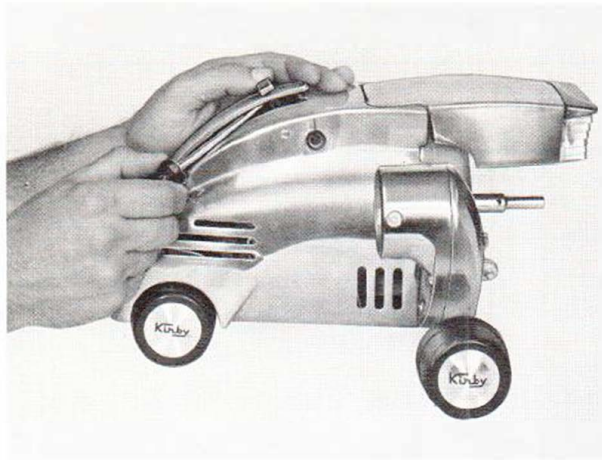
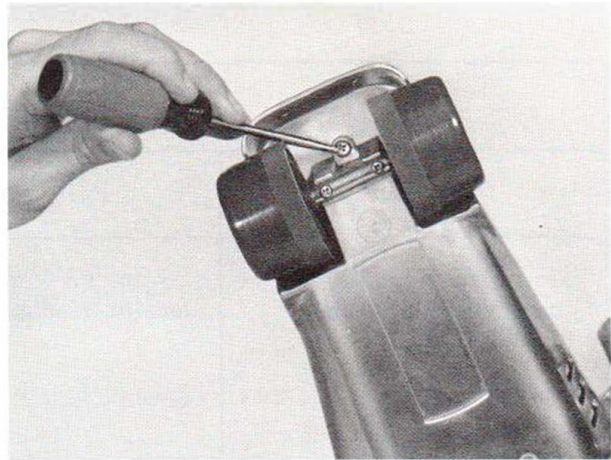

Figure 1-2. Removing plastic scuff plate and lock button
Figure 1-3. Loosening bottom foot switch screw
(1) Wrap a clean cloth around a screwdriver blade to avoid scratching the housing shell. Pry up and remove plastic scuff plate (17). The handle lock button (14) will pry loose as well (fig. 1-2). Remove it and handle lock shaft (18, fig. 1-1), which will now be loose in the housing shell. Turn the housing shell on its side, and back out bottom foot switch housing screw (28) about 1/2 inch, as shown in figure 1-3. It is not necessary to remove the screw from the housing.
(4) Slide shell over motor housing, lifting up slightly on the shell so that handle fork spring assembly clears motor brush and brush cap.
(5) Start the bottom foot switch mounting screw (fig. 1-3) into the foot switch, but do not tighten. Turn the housing shell on its side and fully install and tighten the top foot switch mounting screw (15, fig. 1-1). With the foot switch secured in position, tighten the bottom mounting screw fully.
(6) Install three housing shell assembly screws (34) and tighten. Finish tightening top foot switch mounting screw (15).
(7) If old scuff plate (17) is cracked or chipped, or if any tabs are worn or missing, install a new scuff plate. Align tabs on scuff plate with holes in housing shell and push plate in, starting with the bottom pair of tabs and working up, until all three tabs are firmly seated.